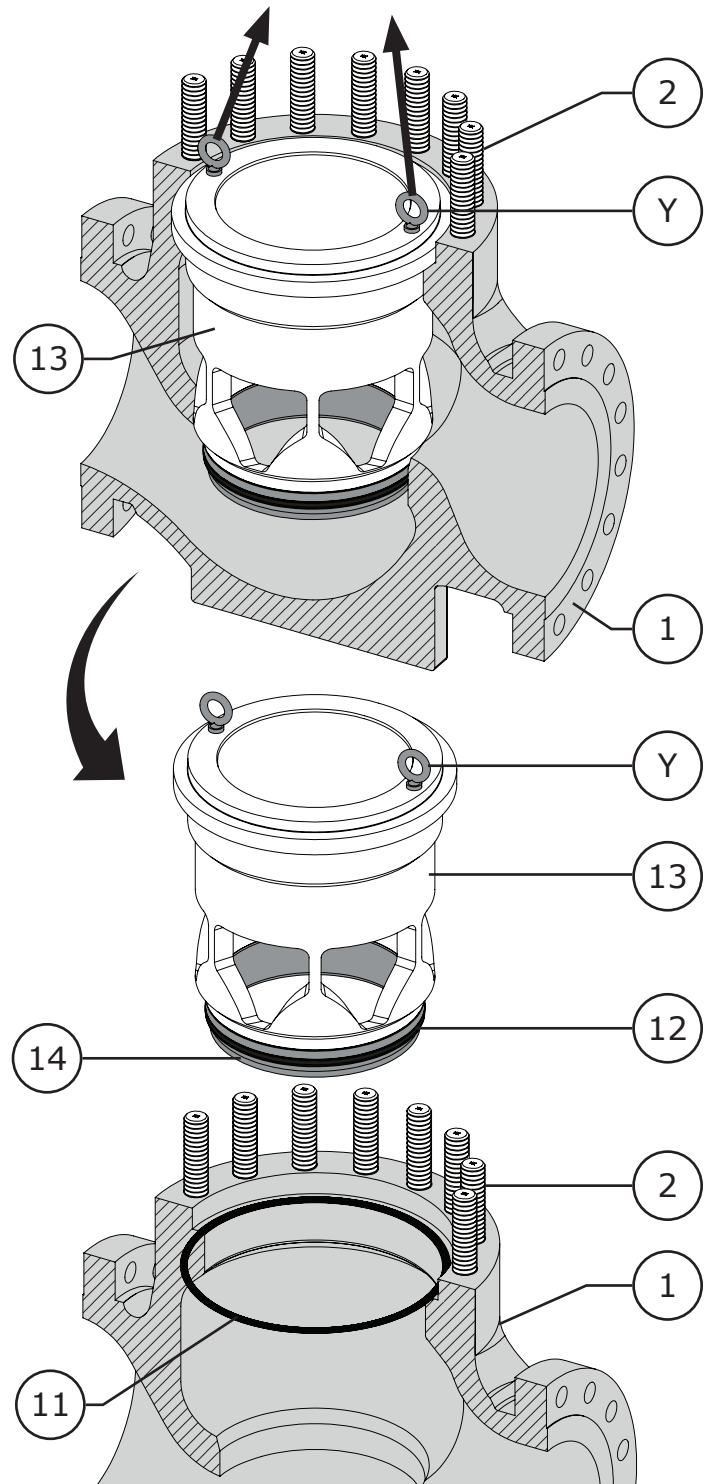

Figure 9 Trim Parts Removal (Steps 3 & 4)
- 3 The cage (Key 13) is equipped with tapped holes for the installation of lifting bolts. Using lifting bolts (Key Y), carefully remove the cage/seat ring assembly (Keys 12, 13, & 14). Refer to Figure 9.